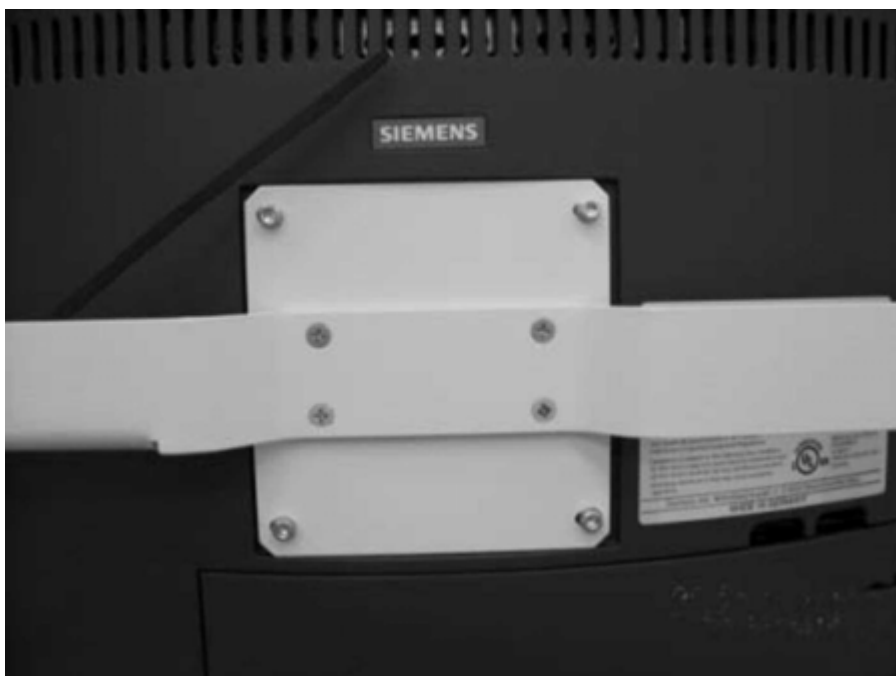

Fig. 40: Monitor attachment on the back
- To remove the flat screens, loosen the 4 hexagon-socket head cap screws M4 x 16 (Fig. 40 / p. 64).